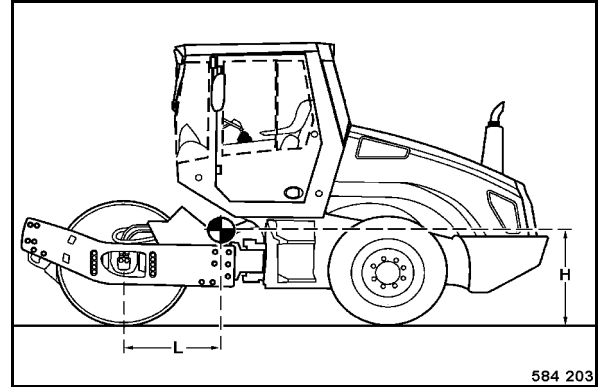

Fig. 119
**Position of centre of gravity (Fig. 119):**